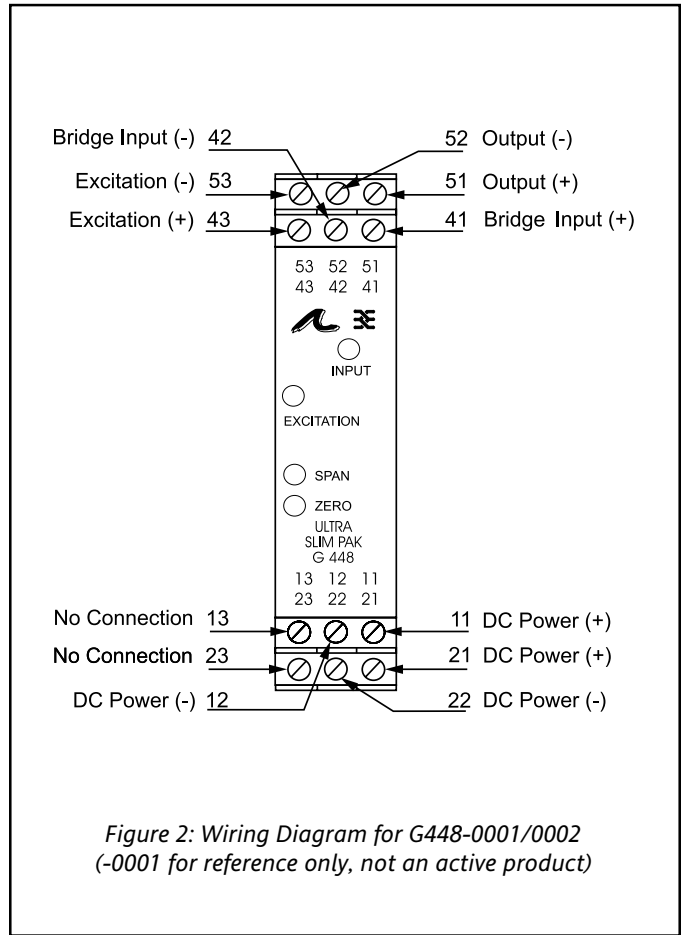

Figure 2: Wiring Diagram for G448-0001/0002 (-0001 for reference only, not an active product)
1. After configuring the DIP switches, connect the input to a calibrated millivolt source. Connect the output to the device (or a load equivalent to the device) and apply power. (see Wiring Diagram, Figure 2 or 3).